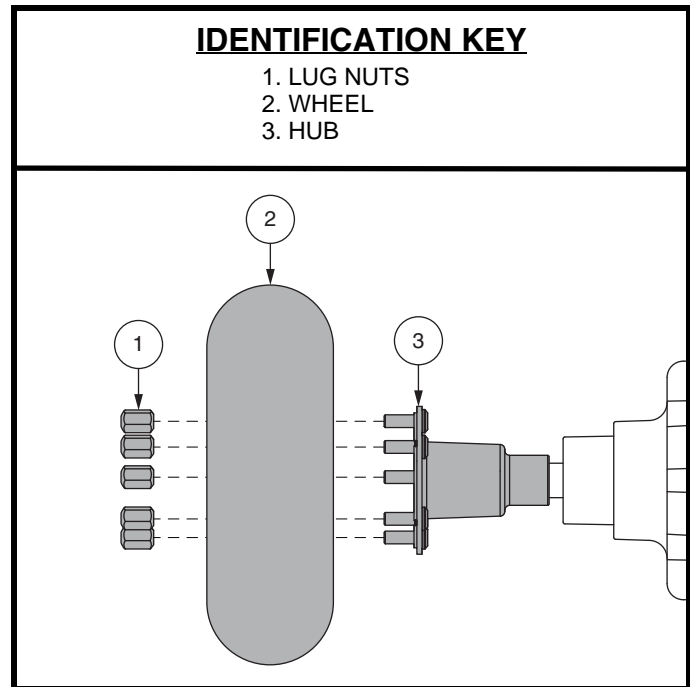

Figure 26. Drive Wheel Removal
4. Remove the lug nuts from the hub. See **figure 26**.